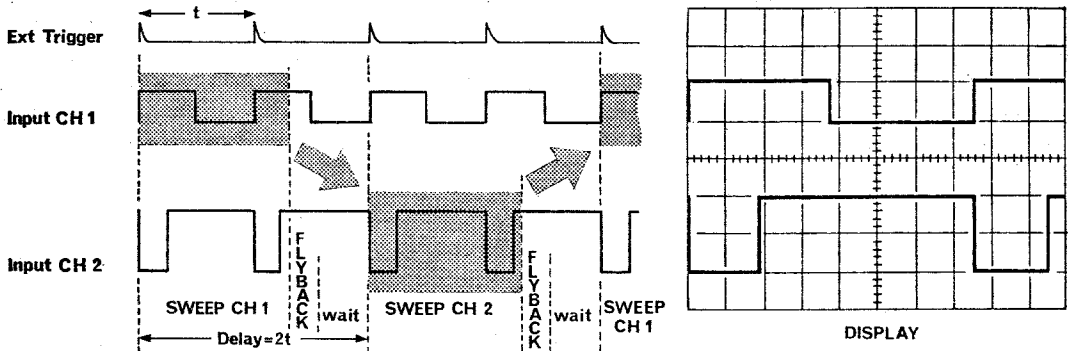

Fig. 13 Dual trace—Alternate sweep method
c. *ALT position (dual trace)*. A double trace display is obtained by displaying the channel one and channel two signals on *alternate sweeps of the timebase*. It is the recommended method of using the oscilloscope for frequencies above 10kHz. This method cannot be used at very slow timebase velocities because of the tendency of one trace to fade out while the other is being painted. Another disadvantage of the alternate sweep method of obtaining a double trace is the time 'delay' between the signal on trace one and that on trace two. This time delay is a multiple of the periodic time of the triggering signal which starts each sweep (see figure 13), and is of little practical importance as most signals being examined are repetitive in nature.